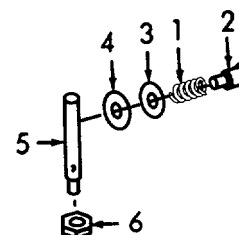

Figure 6-24. Needle Thread Guide, Assembly.
f. *Assembly (Refer to Figure 6-24).*
- (1) Install spring (1) to screw (2).
- (2) Install front tension disc (3) and rear tension disc (4) to the screw (2).
- (3) Install the screw (2) to the pin (5).
- (4) Install the locknut (6) to the pin (5).